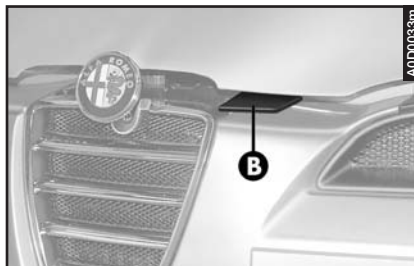

fig. 9
- Raise the safety lever upwards (**B**-fig. 9).